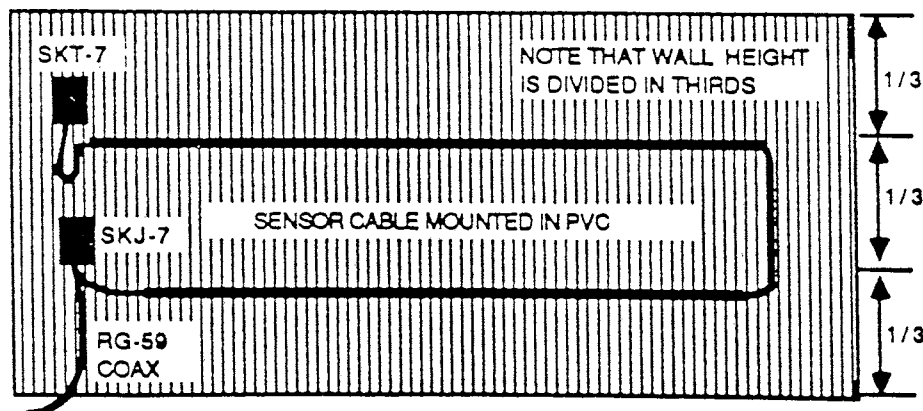

Figure 4-15. Cable Spacing for 10 Foot (3 m) High Wall
1. Plan the cable pattern. Figure 4-15 illustrates a typical arrangement for walls ≤ 10 feet (3 m) high. For best results on hollow structures, such as plaster board and plywood, the distance between cable passes should be less than 5 feet (1.5 m). Closer spacing provides even better detection. For solid structures, such as concrete or brick, the cable spacing should be ± 3 feet maximum. As long as the length of sensor cable is ≤ 1000 ft (300 m), several passes of cable may be used. The cable can be installed directly on the surface of the wall or run through PVC conduit that is attached to the wall. Testing may be required to establish the most effective cable position and spacing. Remember, a single zone (1 processor) should cover only one height and type of surface.